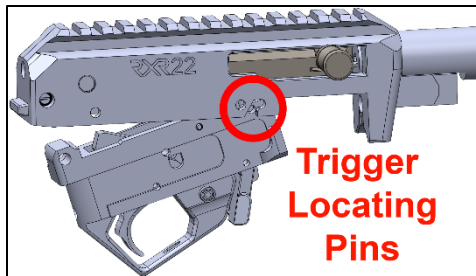

Figure 31
- Insert the trigger locating pins into the recesses in the receiver – Figure 31. Allow the trigger group to sit into the receiver.